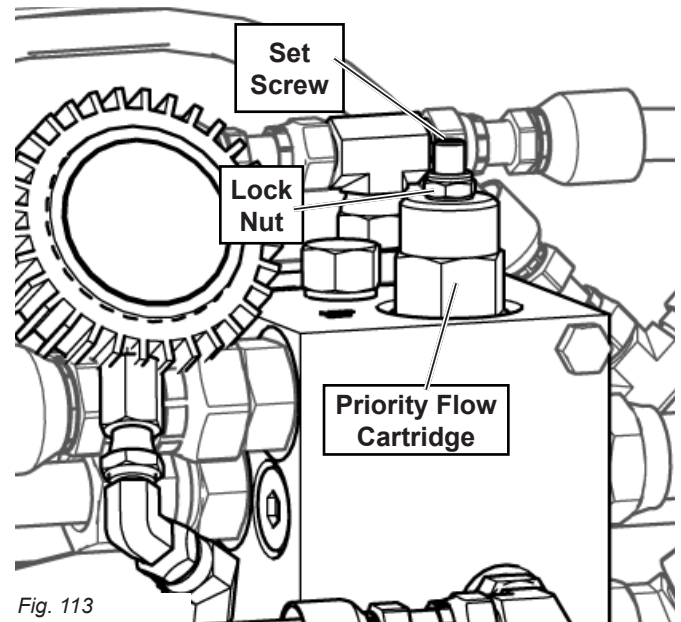

Fig. 113
Draper and reel speed is controlled via the switch box in the windrower cab. The maximum speed that can be achieved via the controls in the windrower is restricted by the priority flow cartridge on top of the hydraulic manifold located on the center rear of the swather as shown in Fig. 113. The maximum speed is preset in the factory and should only be adjusted if instructed to do so by the manufacturer or dealer.
1. Locate the priority flow cartridge on the top of the manifold block-“A508 269” Port (see Fig. 113).